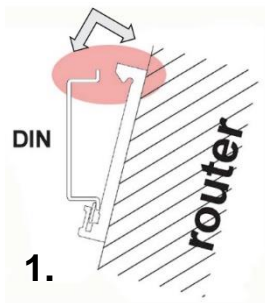

Fig. 20 Router mounting
2. Carefully remove the router from the DIN rail (refer to Fig. 20 below).
4. Put the Router at an angle of approx. 45 ° with the bottom part of the mounting rail on the DIN rail (refer to Fig. 20 below).